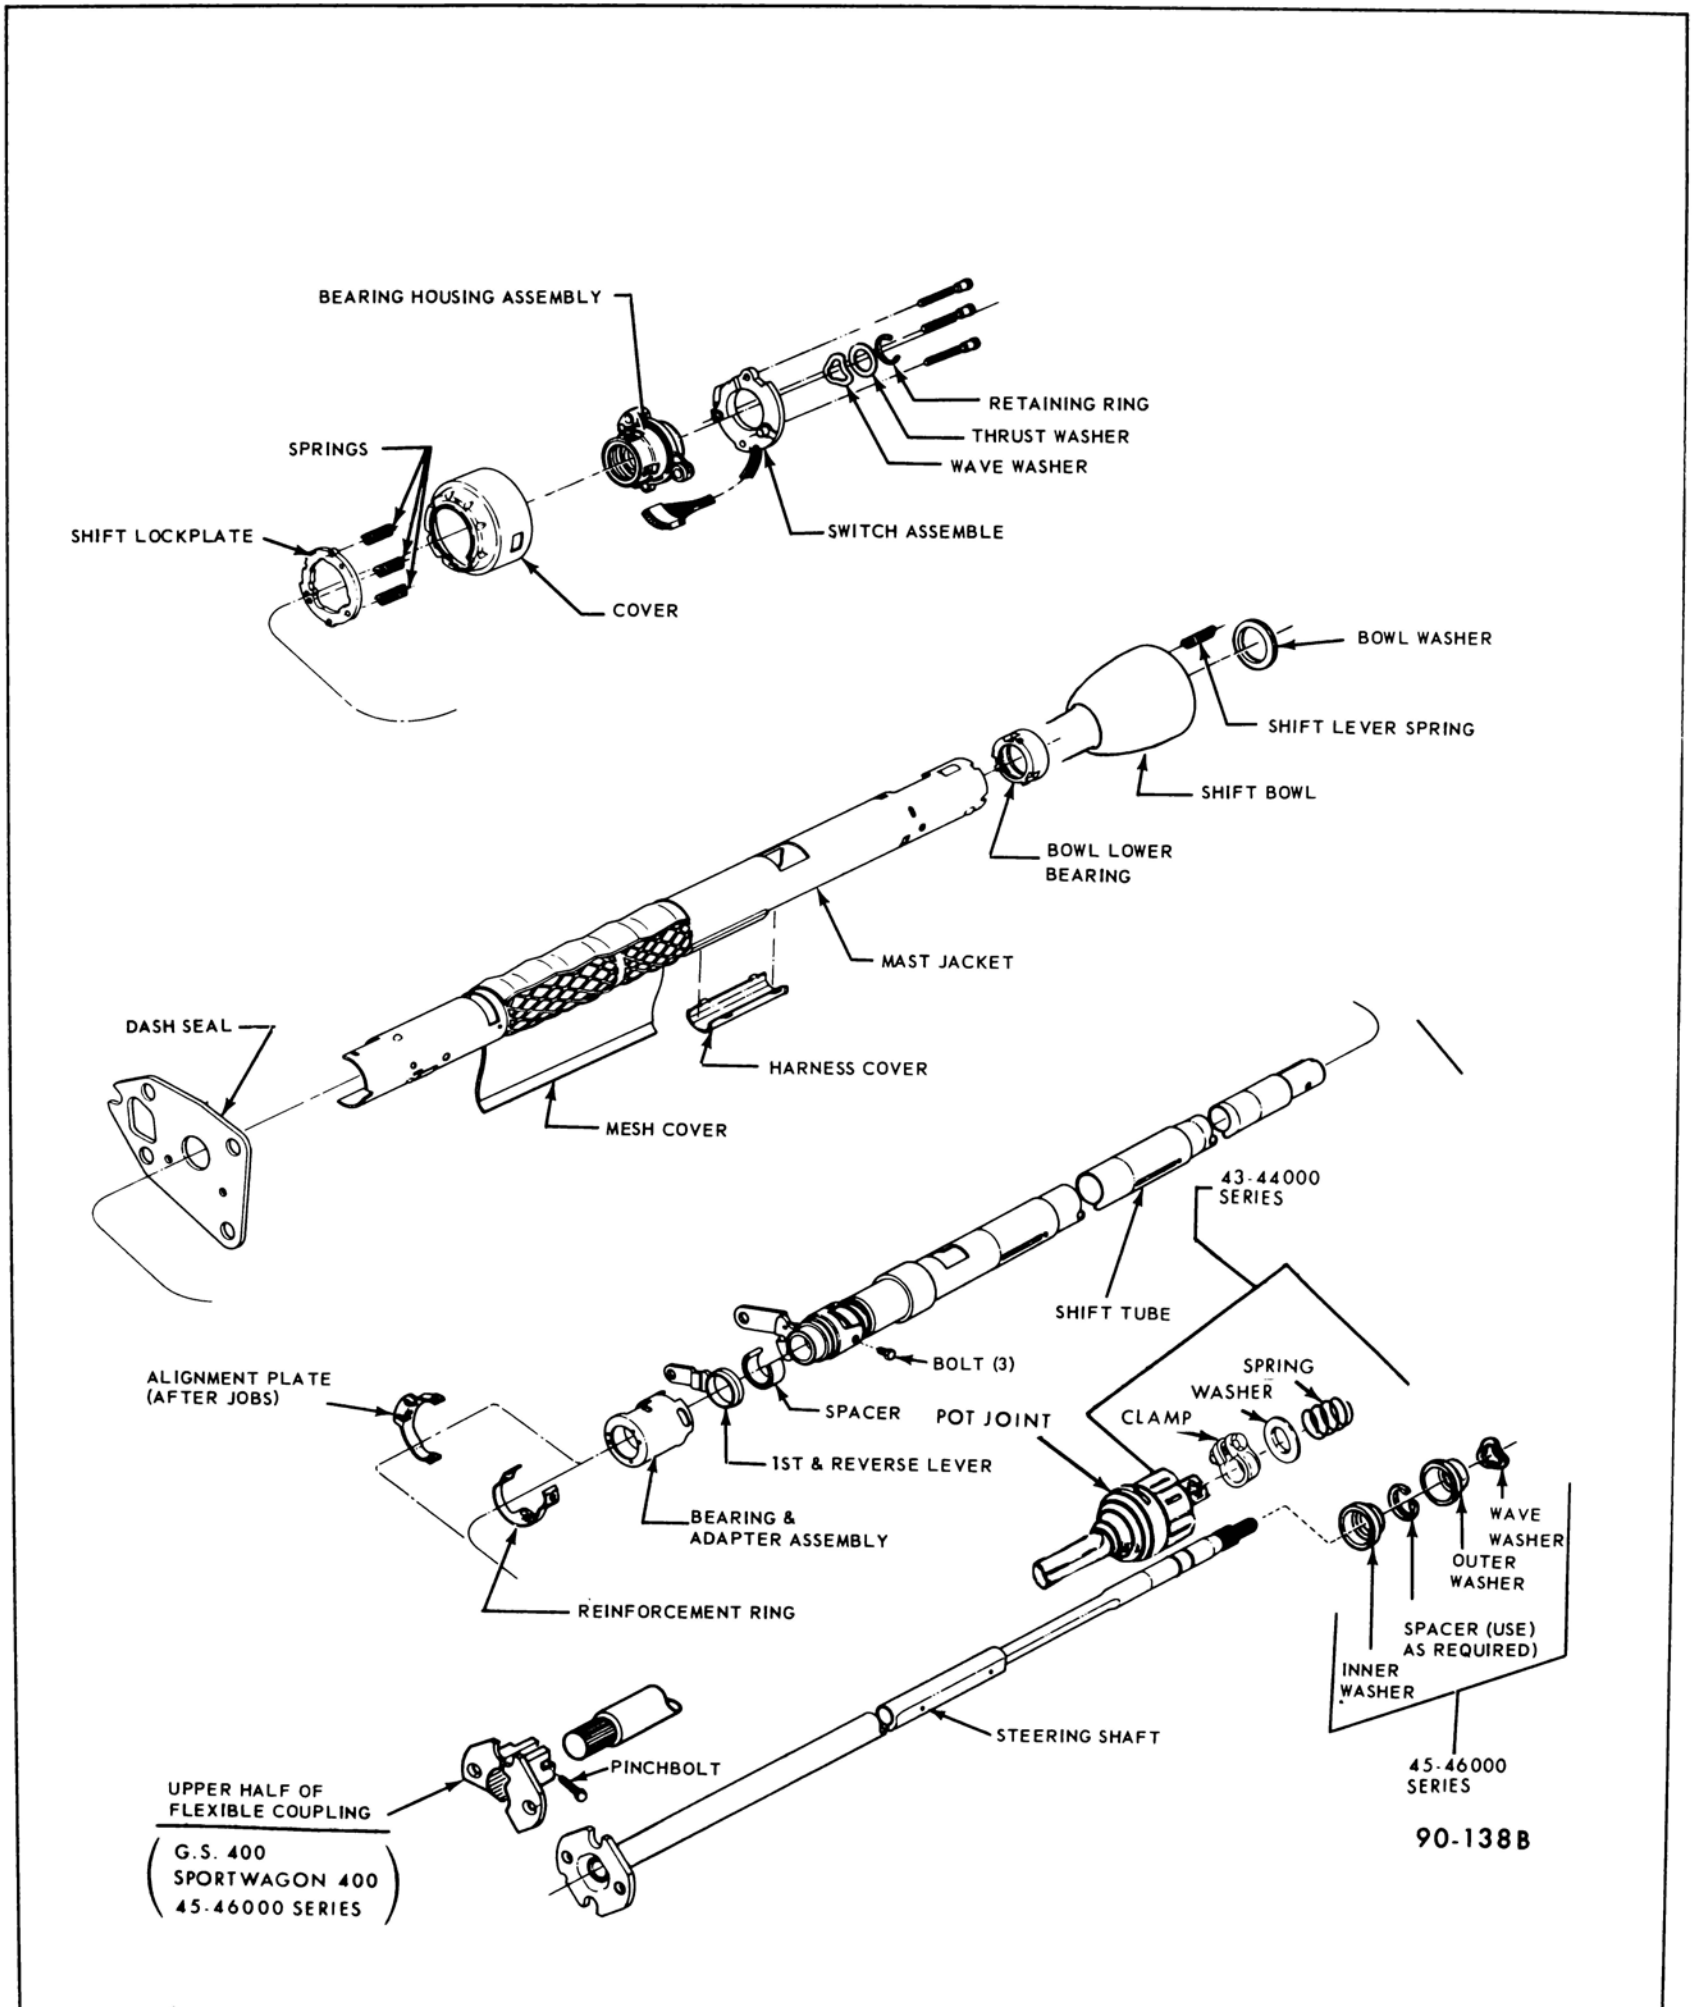

Figure 90-92 Standard (Non-tilt) Steering Column Assembly
3. On only 43-44000 Series columns disassemble clamp, thrust washer, and spring from lower portion of steering shaft (see Figure 90-92).
8. On only columns used with 3 speed manual transmissions drive out shift lever pin and remove shift lever. On lower end of column remove screws securing reinforcement ring (or alignment plate) and disassemble reinforcement ring (or alignment plate), bearing and adapter assembly, 1st and reverse lever, and spacer. See Figure 90-92. Withdraw shift tube from column.
1. Reassemble reverse of removal procedures and note the following special procedures. See Figures 90-92, and 90-93, for reassembly sequence.